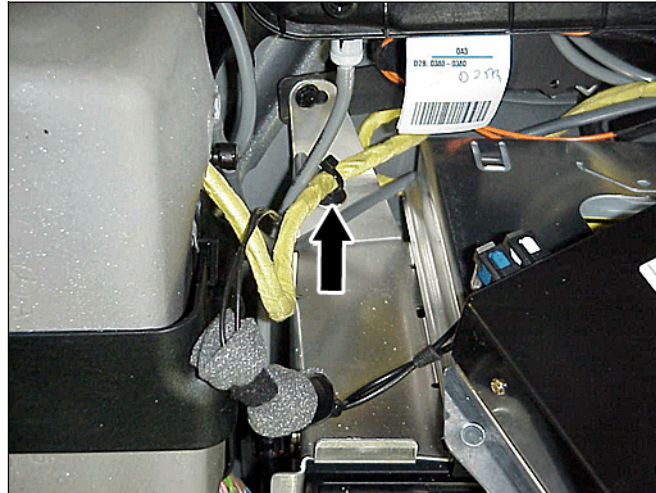
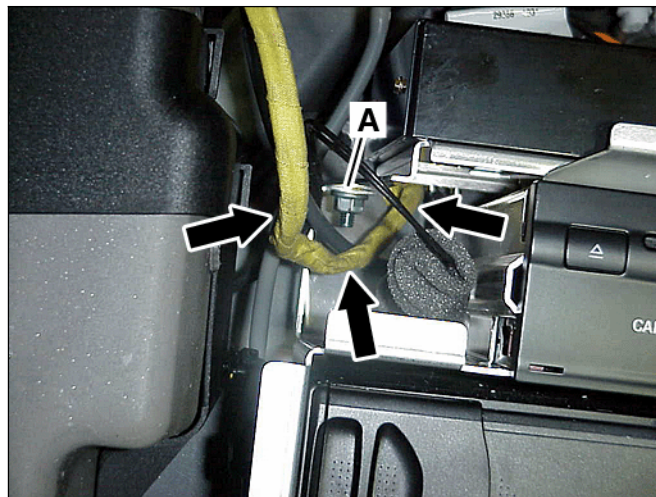

Figure 15
Figure 16
1. Carefully cut the wire tie anchoring the DDS harness to the Car Navigation/CD Changer bracket (Figure 15).
2. Remove the wire-tie anchor from the Car Navigation/CD Changer bracket (Figure 15).
3. Reroute the DDS harness (Arrows, Figure 16) to allow the threaded stud from the SDAR control module bracket (A, Figure 16) to mount in the hole where the wire tie was anchored (Arrow, Figure 15).